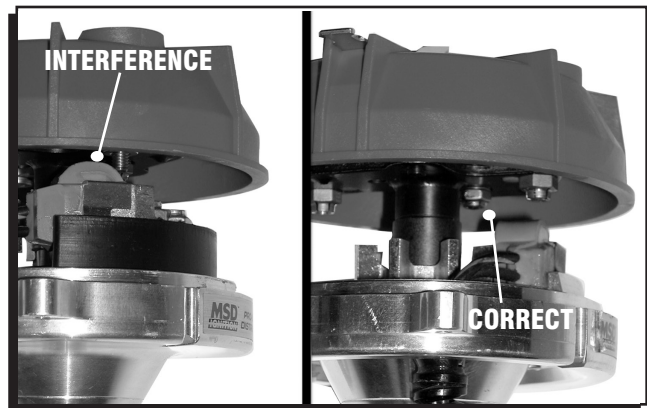

Figure 1 Checking Rotor Screw Clearance.
**Note:** The Pro-Cap is supplied with two sets of rotor screws; two over-molded plastic hex screws and two Phillips head screws. Some MSD distributors will not accept the plastic hex screws due to the position of the magnetic pickup. Before installing the Cap Spacer, install the rotor and check for clearance over the magnetic pickup as shown in Figure 1.